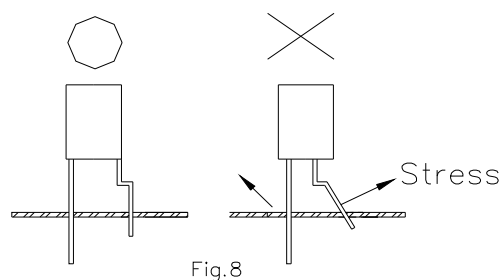

Fig.8
3) Form the lead to ensure alignment between the leads and the holes on PCB, so that stress against the LED is prevented. (Fig.8)